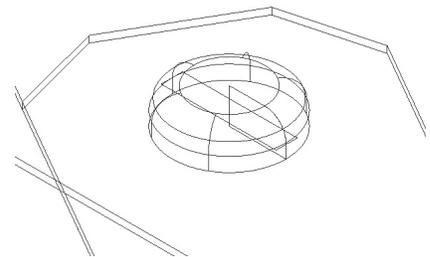

Fig. 57
Step 9. Set: End Angle = **360** and click OK, **Fig.57**.